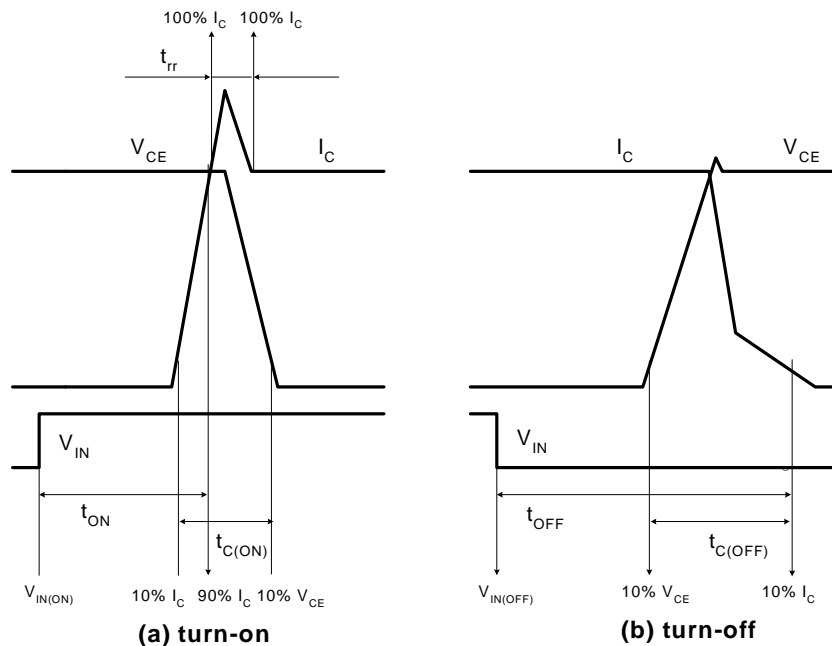

Figure 4. Switching Time Definition
- $t_{ON}$  and  $t_{OFF}$  include the propagation delay of the internal drive IC.  $t_{C(ON)}$  and  $t_{C(OFF)}$  are the switching time of IGBT itself under the given gate driving condition internally. For the detailed information, please see Figure 4.